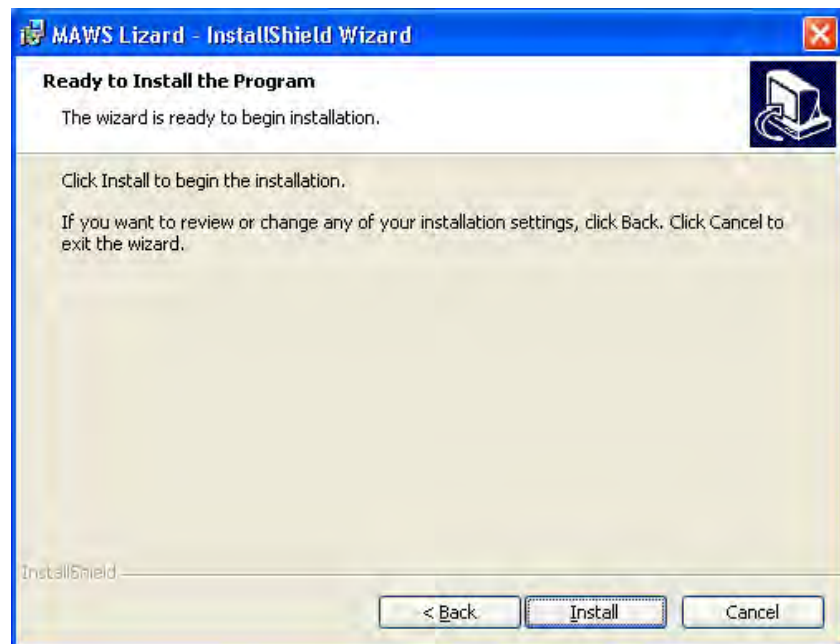

Figure 5 Ready to Install Window
6. The installation program is now ready to begin the installation; see Figure 5 on page 29. To proceed, click **Install**.